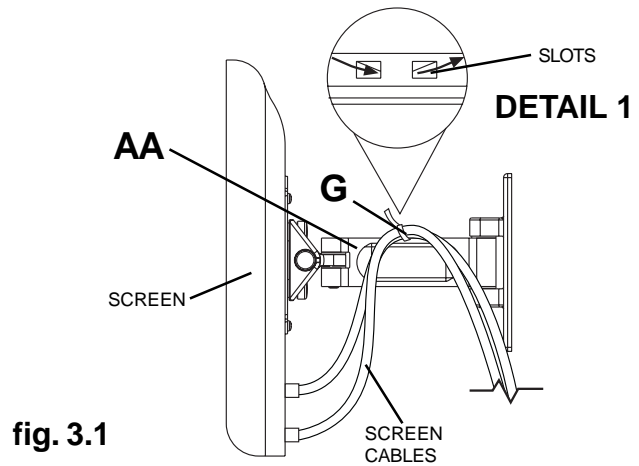

fig. 3.1
- 3** Thread cable ties (**G**) through slots in the arm assembly (**AA**) as shown in detail 1. Secure screen cable to arm assembly (**AA**) by cinching the cable ties (**G**) around the screen cable as shown in fig. 3.1.